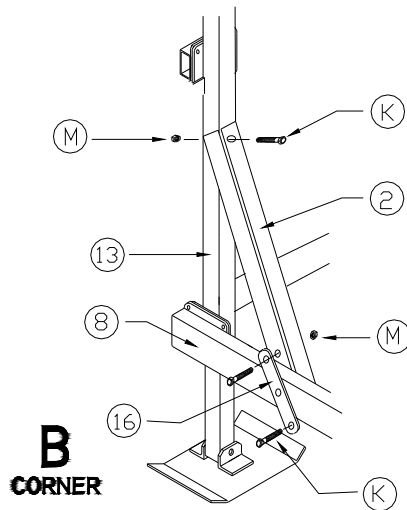

Figure 3-7
- Position a lower diagonal brace on the inside of vertical leg “B” as shown in Figure 3-7. Loosely fasten with hardware shown.